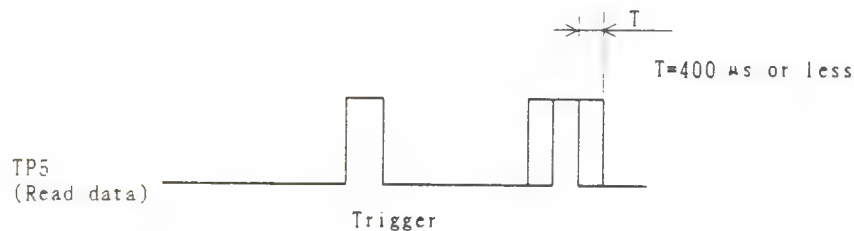

Fig. 5-8 Symmetry Check
- Check the symmetry as described in Fig. 5-8.
- Exchange the head assembly if the symmetry is out of the range as described in Fig. 5-8 on only one head side.